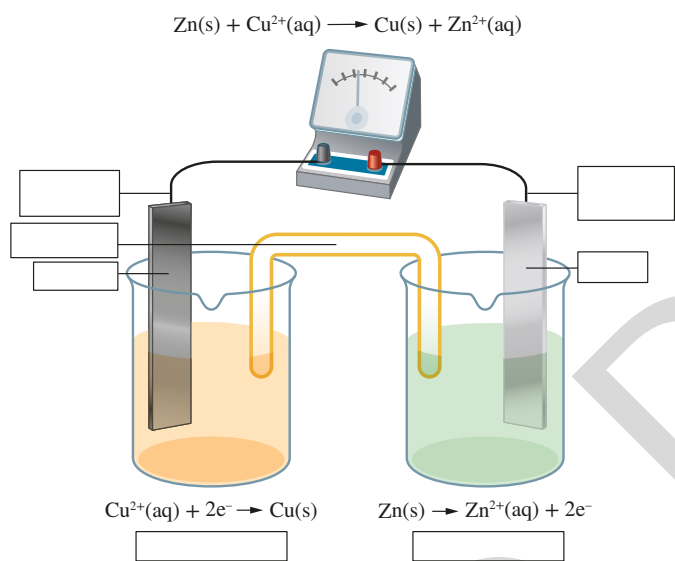

FIGURE 9.1.13 A galvanic cell
- 6 In the spaces provided, label the galvanic cell in Figure 9.1.13 with: